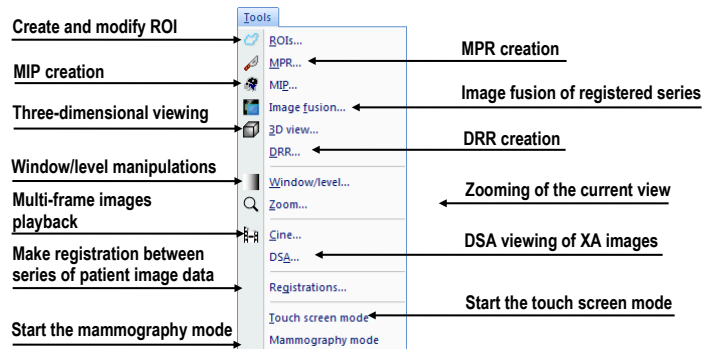

Figure 36 – Tools menu
- **Tools** – the tools for image data handling such as windowing/zooming, 3D viewing, reconstructed viewing (MPR, MIP), subtraction (DSA), creating regions of interests and registrations, defining multi-modal registrations and launching the touch screen and mammography mode (see Figure 36).